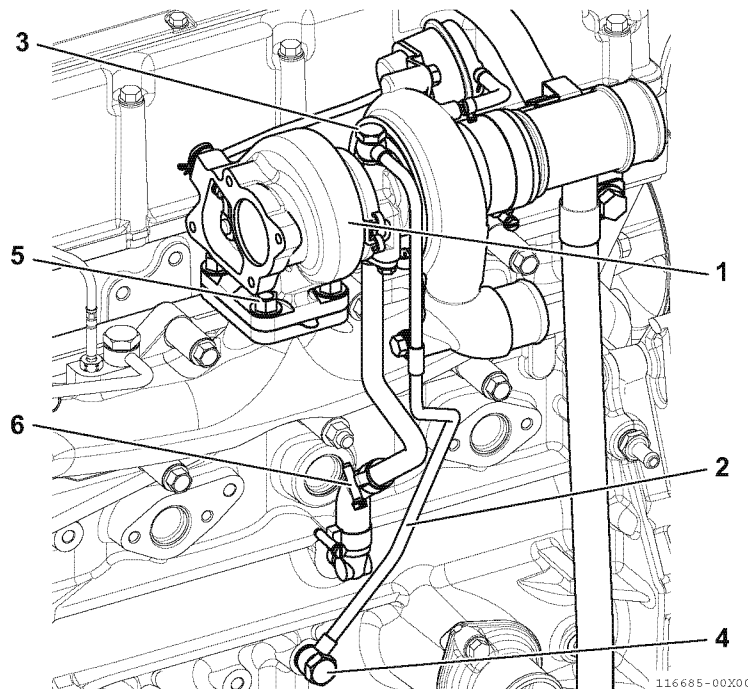

Fig.24-13
1. Disconnect the air inlet and outlet connection of the single-stage turbocharger (1, Fig.24-13).
2. Loosen the pipe joint bolts (3 and 4, Fig.24-13) on the lubricating oil supply pipe (2, Fig.24-13) and remove the lubricating oil supply pipe. Block the pipe joint hole and oil pipe with tape so that dust and other foreign matter do not enter.
4. Loosen the mounting nuts (5, Fig.24-13) of the exhaust manifold flange.
5. Loosen the hose clips (6, Fig.24-13) of the lubricating oil return hose, and lift up and remove the turbocharger from the engine.